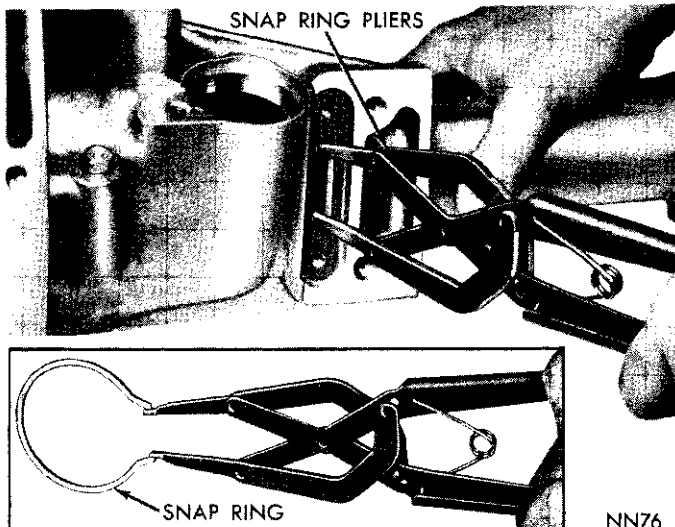

Fig. 23—Removing or Installing Extension Housing
(5) Remove two screws, plate and gasket from bottom of extension housing mounting pad. Spread large snap ring from output shaft bearing with Tool C-3301A (Fig. 23). With snap ring spread as far as possible, carefully tap extension housing off output shaft bearing. Carefully pull extension housing rearward, to remove parking lock control rod knob past the parking sprag, then remove the housing.
(1) Place a new extension housing gasket on the transmission case. Position output shaft bearing retaining snap ring in the extension housing. Slide extension housing on output shaft guiding parking lock control rod knob past the parking sprag. While spreading large snap ring in housing with Tool C-3301A (Fig. 23), carefully tap housing into place, then release snap ring. Make sure snap ring is fully seated in bearing outer race ring groove.
(2) Install and tighten extension housing bolts to 24 foot-pounds.
(3) Install gasket, plate and two screws on bottom of extension housing mounting pad.
(4) Install center crossmember and rear mount assembly, tighten retaining bolts to 75 foot-pounds. Lower transmission, install extension housing to support bolts and tighten to 40 foot-pounds.